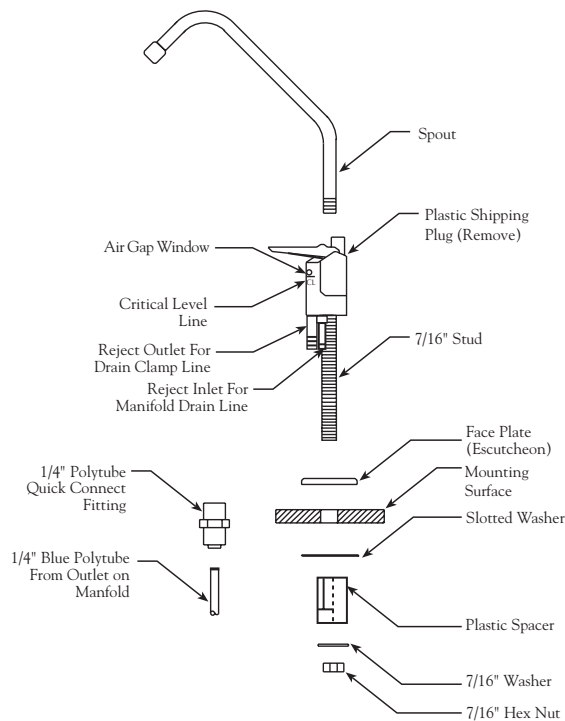

Figure 2
3. Assemble and attach the Faucet (Refer to Fig. 2 above.)
- Check the Air Gap Window on the Dispensing Faucet to be sure that the drain water is flowing. (Refer to Figure 2, page 6.) The R.O. System is now making water.